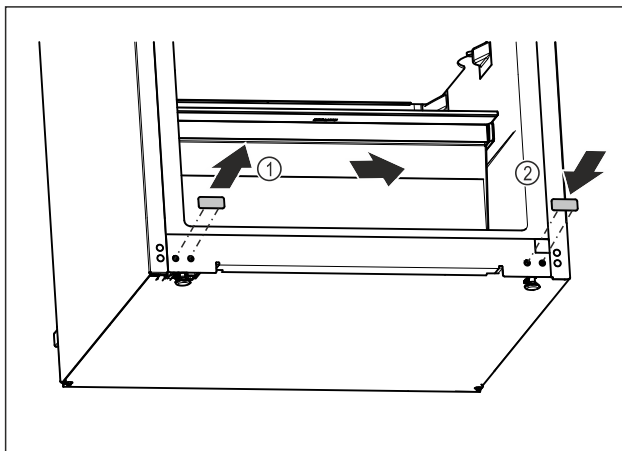

Fig. 16
- ▶ Pull out the cover plug. Fig. 16 (1)
- ▶ Insert the cover plug on the opposite side. Fig. 16 (2)